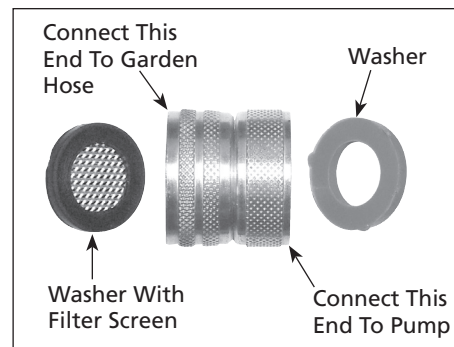
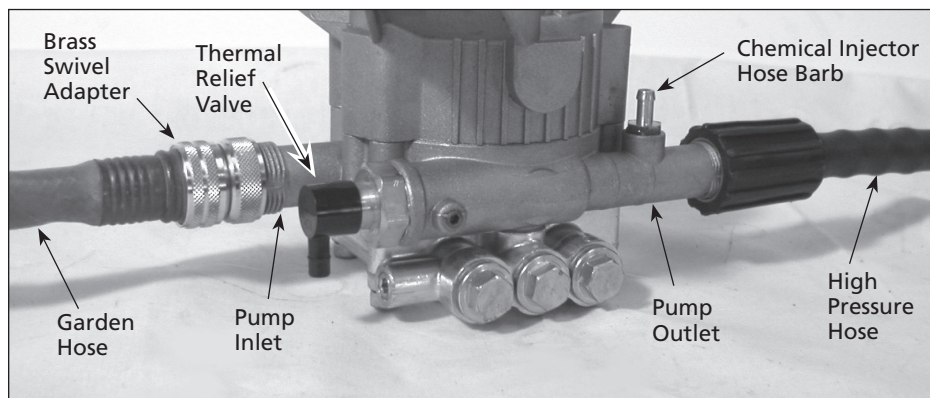
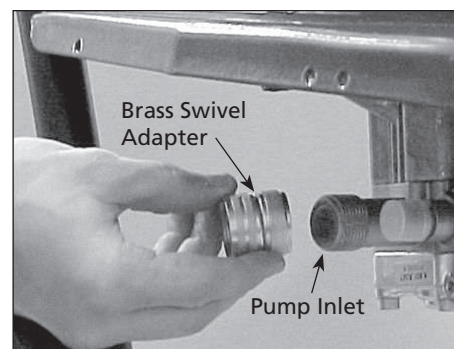

Figure 3 - Brass swivel adapter
Figure 2 - Pump hook up
Figure 4 - Connect the brass swivel to the pump
1. Attach clear plastic tube to barb on pump (see Figure 2 on page 5).
2. **Brass Swivel Adapter** (See Figure 2). If it's not already attached to the pump inlet, assemble the brass swivel adapter and attach it to the pump inlet (See Figure 3 and Figure 4). Be sure to connect the correct side of the brass swivel adapter to the pump.
4. Connect the high pressure hose to the pump outlet (See Figures 2 and 5).